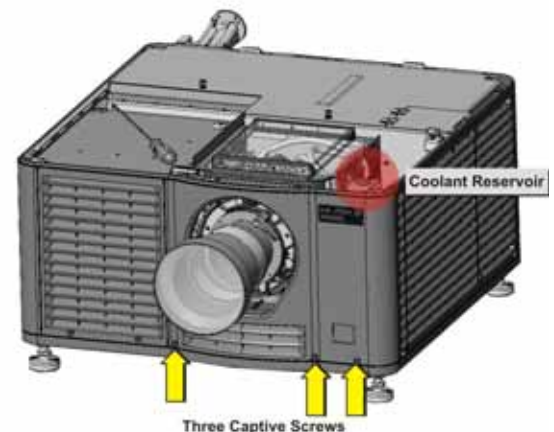

Figure 5-2 Remove Front Skin
3. Use a #2 Phillips™ screwdriver to loosen the three captive screws along the bottom of the front skin. (**Figure 5-2**)